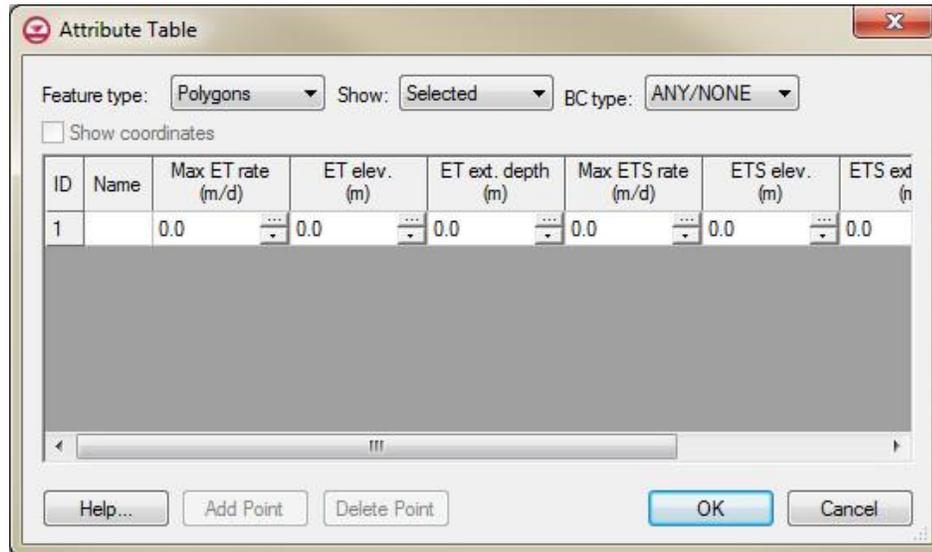

Figure 5 Coverage Properties dialog showing the polygon
3. In the *Attribute Table* dialog, set the values to be as shown in Figure 5.